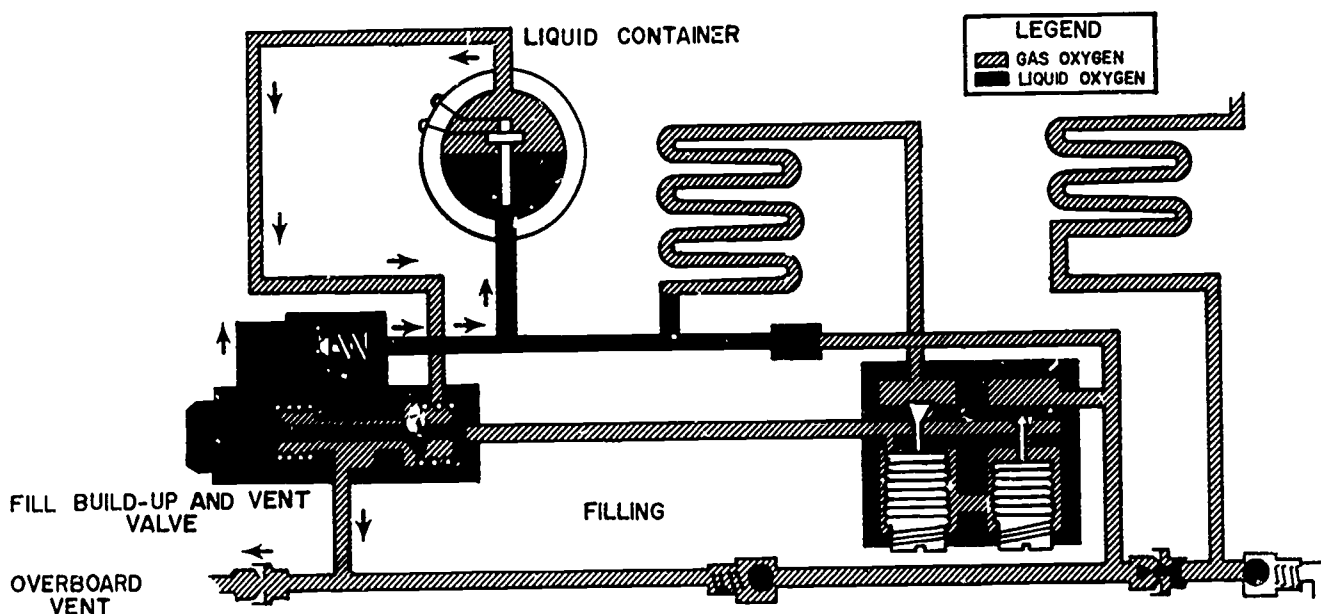

Figure 12.
10- Now that you are familiar with the dual function valves used in this type of system, let's discuss the operation of this system (see figure 12). In order to fully understand what is taking place within the system, it is necessary to look at the system in four (4) different phases of operation. The first phase is FILLING and this is shown below. When the nozzle from the servicing trailer is connected to the fill, build-up and vent valve, the plunger in the valve is pushed in as shown. This closes the build-up line and provides an open line to the overboard vent. Any pressure in the system is now vented overboard. When the liquid oxygen enters the valve, it unseats the fill check valve and goes into the container through the bottom. When the container is full, liquid flows out the top of the container, back through the valve and out the overboard vent. At this time, the nozzle from the servicing trailer is removed and this automatically places the system in the build-up phase.